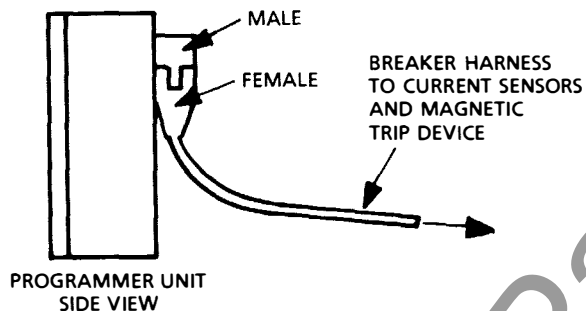

Fig. 3. Normal "In Service" breaker connection
**CAUTION:** NEVER DISENGAGE THE HARNESS CONNECTOR FROM THE PROGRAMMER UNIT ON A BREAKER THAT IS ENERGIZED AND CARRYING LOAD CURRENT. THIS WILL OPEN-CIRCUIT THE CURRENT SENSORS, ALLOWING DANGEROUS AND DAMAGING VOLTAGES TO DEVELOP. SEE FIG. 3.